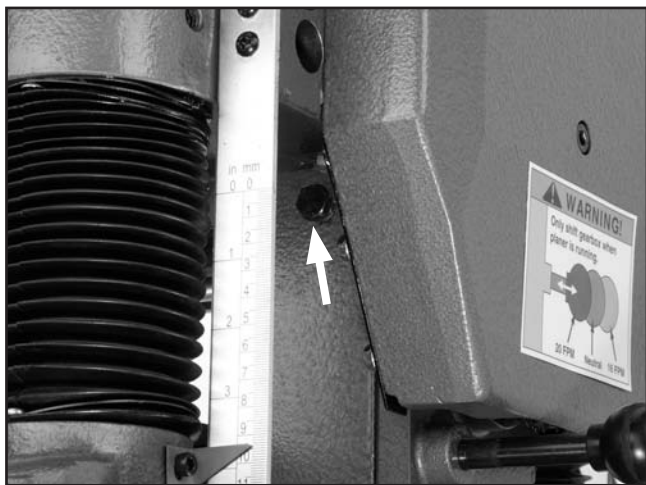

Figure 11. Gearbox fill plug location.
1. Using a 14mm wrench or socket, remove the gearbox fill plug (**Figure 11**).